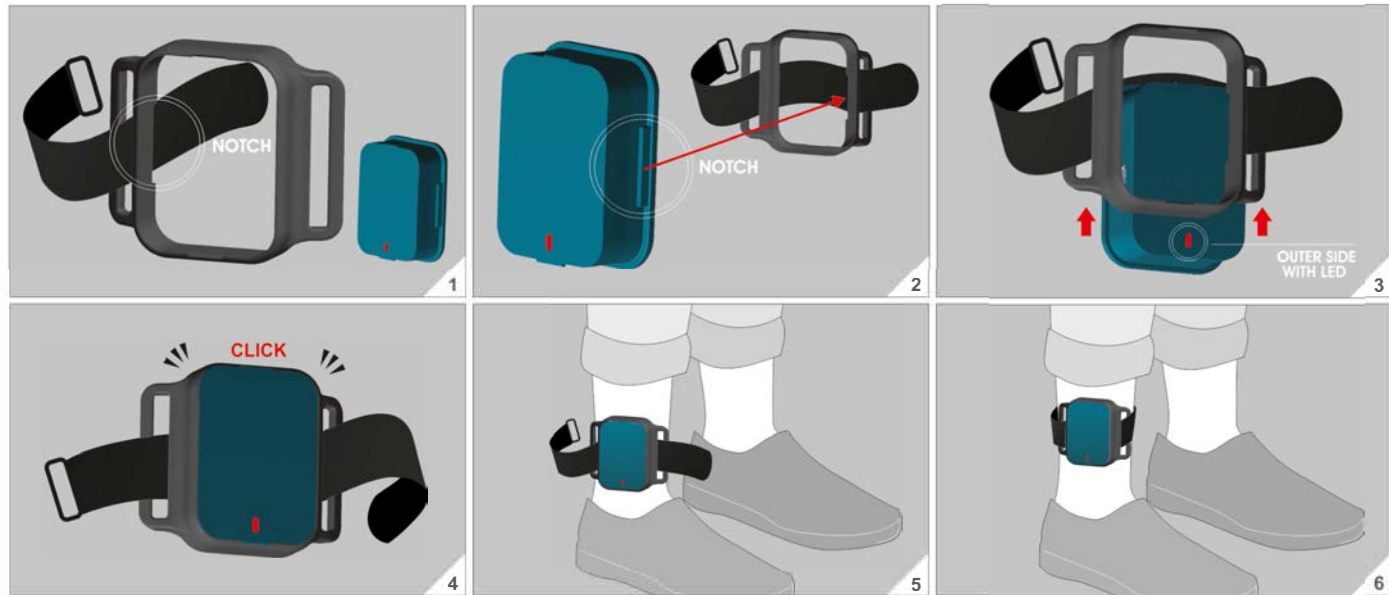

Figure 15. Instructions on mounting PDMonitor® Monitoring Devices on shanks using the strapframe
- Secure the Monitoring Devices to the strapframe as shown in Figure 15 by sliding the Monitoring Devices inside the frame and then pushing the strapframe sides until a characteristic “clicking” sound or feeling on the hand occurs
- Place the Monitoring Devices in the correct leg position, as shown in Figure 15